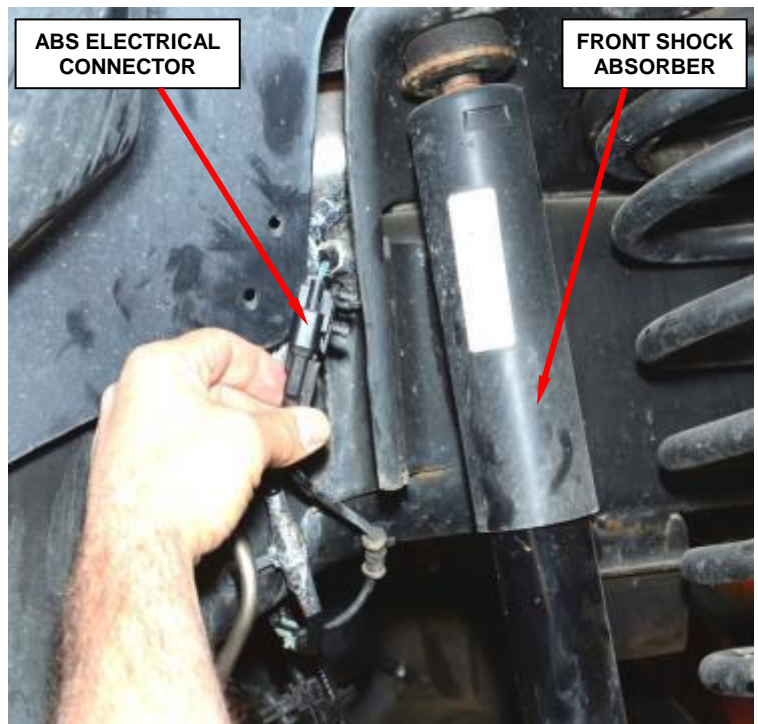

Figure 3 – ABS Wheel Speed Sensor Electrical Connector
- Disconnect the Anti-Lock Brake System (ABS) wheel speed sensor electrical connector and unclip the ABS wire from brake hose (Figure 3).